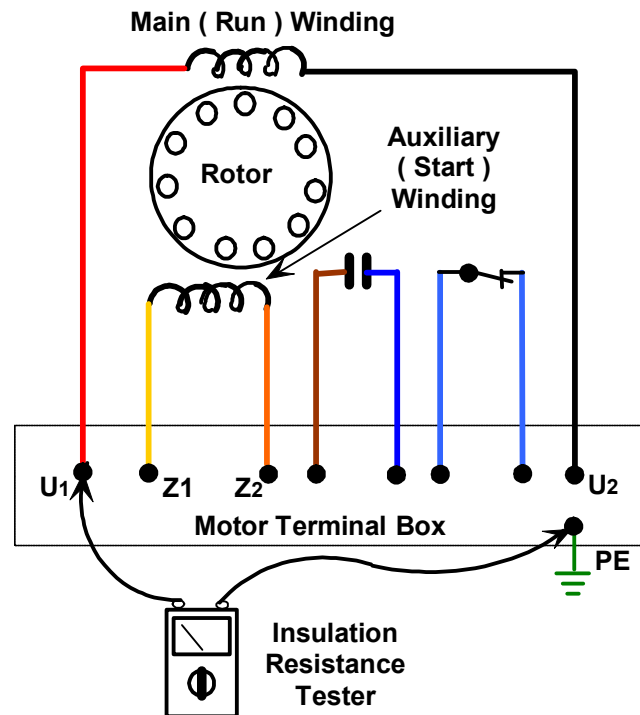

Figure 42.
- Step 3 Check the insulation resistance between main winding and frame as shown in Figure 42.